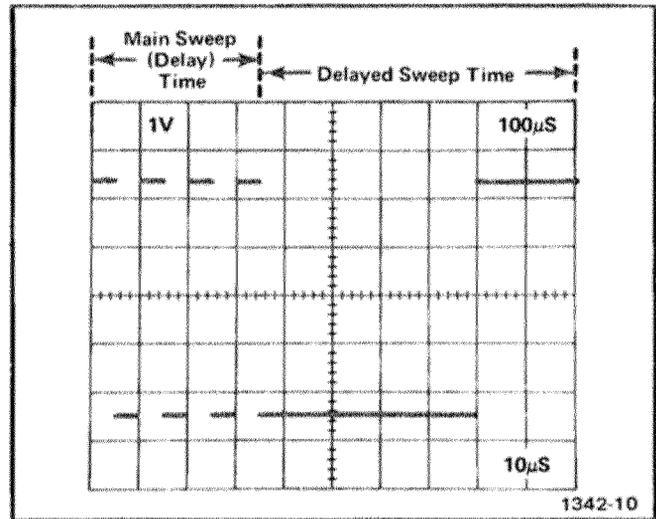

Fig. 2-9. Typical Mixed Sweep display (DELAY TIME MULT dial set to 3.55)
**Mixed Sweep Operation.** The MIXED Display Mode is selected when the DLY'D SWP Display Mode is selected and the VARIABLE knob is pulled out. In this mode, the main sweep is displayed on the crt to a point determined by the DELAY TIME MULT dial; the remainder of the sweep is at a rate determined by the delayed sweep. Triggering for the main sweep portion of display is controlled by the MAIN TRIGGERING controls; and triggering for the delayed sweep portion of display is controlled by the DLY'D TRIG controls. A typical mixed sweep display is shown in Fig. 2-9.